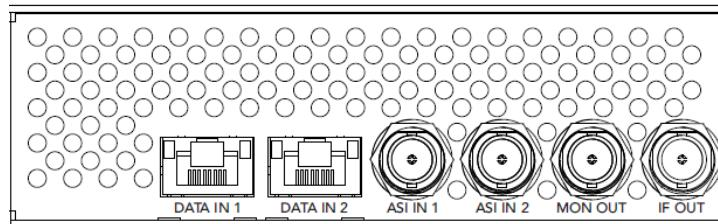

Figure 5: SMD 912(A) single TS input with monitor and IF output
The SMD 912(A) option has four different types of I/O as shown in Figure 5.